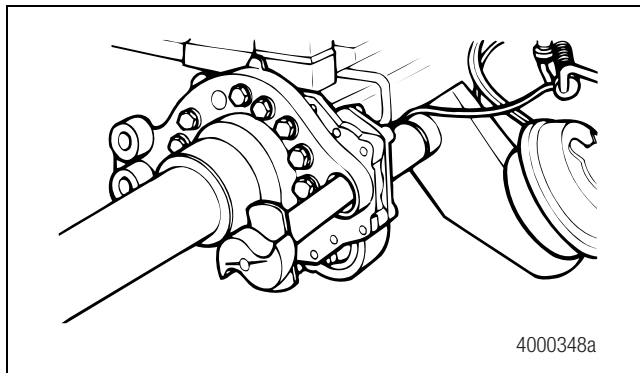

Figure 4.16
5. Place the cam head washer onto the camshaft. Apply the appropriate Meritor-approved grease to the camshaft bushings and journals. Refer to Section 11. Install the camshaft through the spider and bracket. The camshaft should turn freely by hand. Figure 4.16.